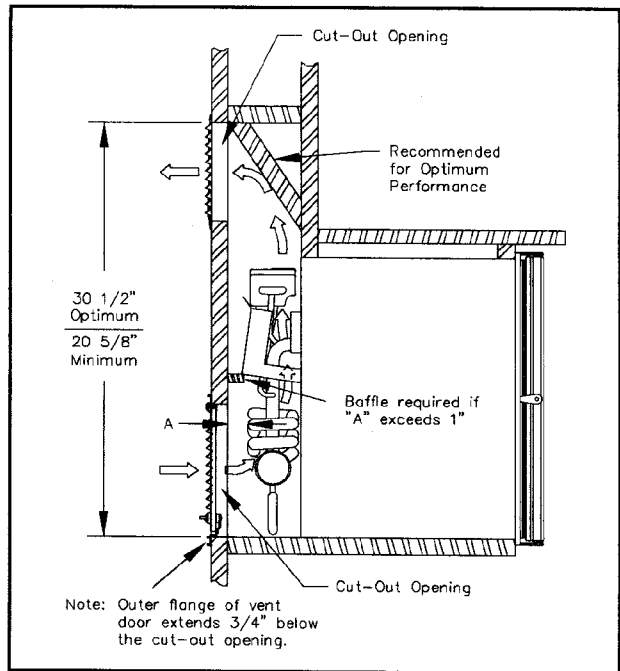

Figure 1 - Ventilation Side View
A.G.A./CGA certification permits installing the refrigerator with zero inch (0") minimum clearance at the sides, back, top, and bottom. This certification does not specify any maximum clearance. However, the clearances around the sides and rear should be minimized in order to create a proper air draft necessary for good refrigerator performance. If dimension "A" in Figure 1 exceeds 1", a baffle must be added in the location shown to prevent by-pass air. The condenser and absorber tubes must receive a continual supply of cooler air in order to maintain proper refrigerator cooling. The air passage (ventilation zone) from the lower vent door to the refrigerator coils and from the coils up through the upper vent must be unobstructed. If the air becomes trapped by obstructions, the refrigerator will start to lose its ability to cool. The illustration in Figure 1 shows the installation dimensions to obtain optimum venting. To prevent serious loss of cooling capacity, the upper cut-out opening must not drop below the minimum stated dimension of 20 5/8". It is important to block off the area above the refrigerator cabinet from this ventilation zone (Figure 1) to prevent pockets of hot air from forming. Without adequate ventilation and/or with partial blockage of flue exhaust, incomplete combustion (on GAS operation) can cause carbon monoxide to form. See Warning above.